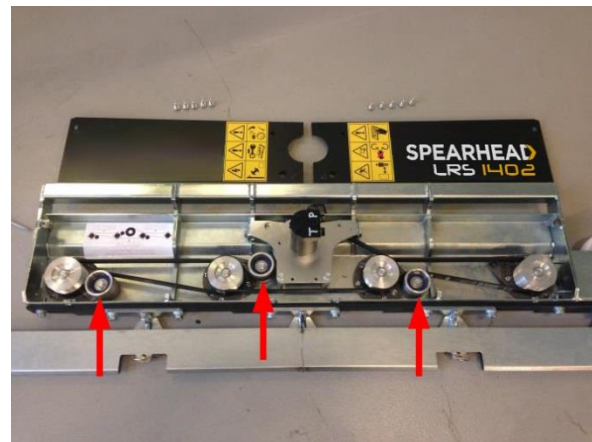

Figure 5.3
- 5.1.2.2 There are three belt tensioners, one for each belt, see Figure 5.3;